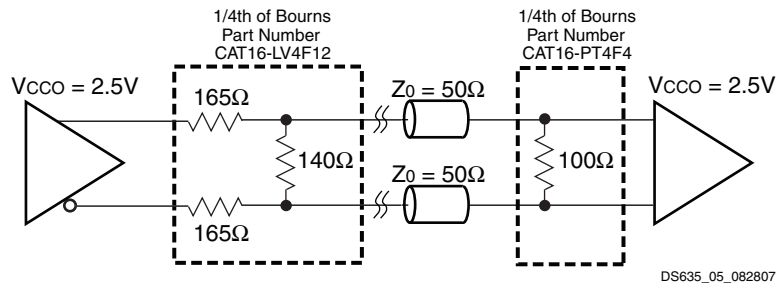

Figure 5: External Termination Resistors for BLVDS Transmitter and BLVDS Receiver
2. Output voltage measurements for all differential standards are made with a termination resistor (R_T) of 100Ω across the N and P pins of the differential signal pair. The exception is for BLVDS, shown in Figure 5 below.